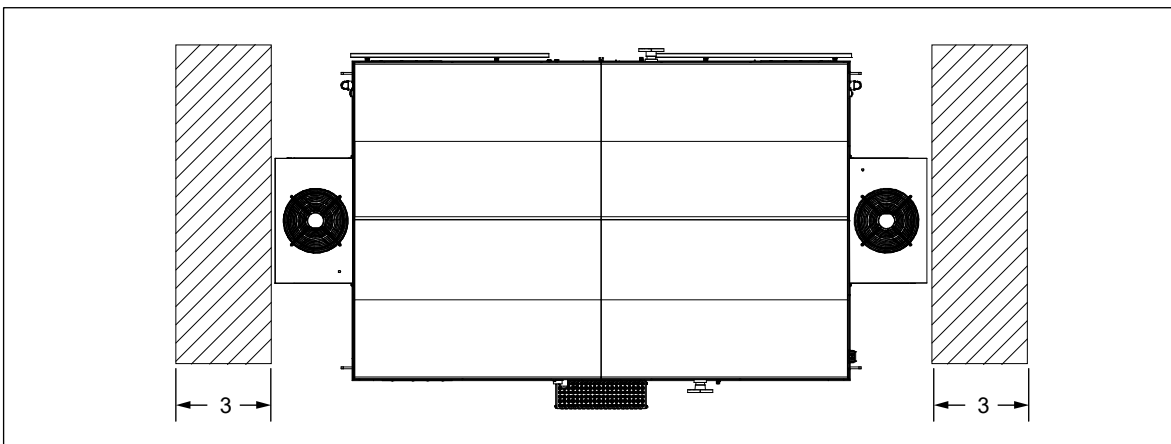

Figure 4 Working Space Clearances
- See Figure 4 for working space clearances.
- One (1) hour fire rating